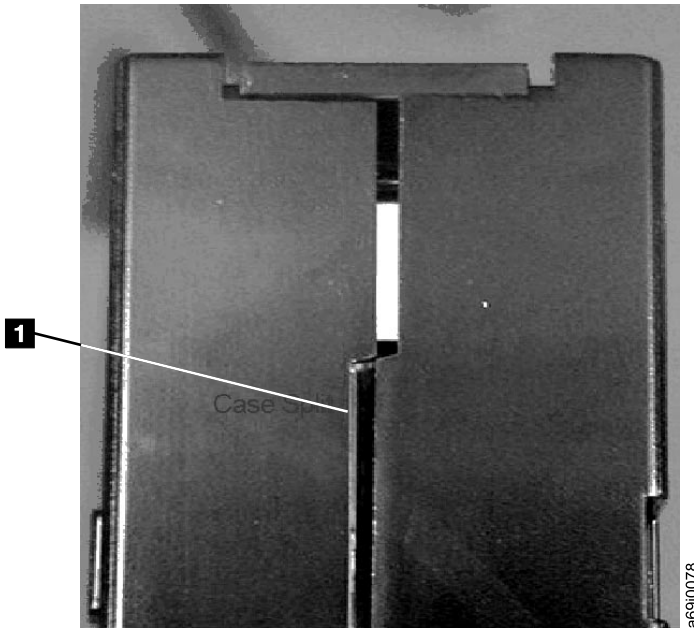
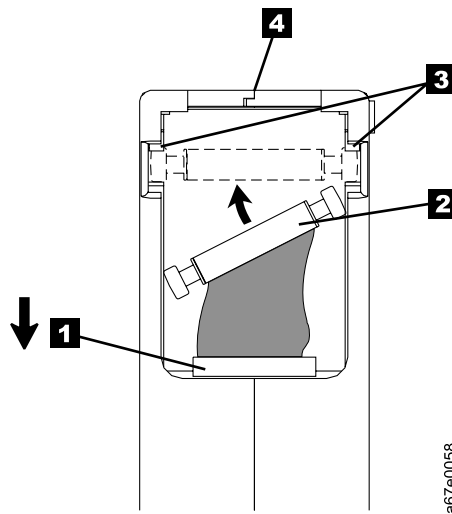

Figure 41. Checking for gaps in the seams of a cartridge
Figure 43. Placing the dislodged leader pin into the correct position. The cartridge door is open to show the leader pin.
- Inspect the rear of the cartridge (the part that you load first into the tape load compartment) and ensure that there are no gaps in the seam of the cartridge case (see **1** in Figure 41 on page 201 and **4** in Figure 43 on page 204). If there are gaps in the seam (see Figure 41 on page 201), the leader pin may be dislodged. Go to “Repositioning or Reattaching a Leader Pin” on page 203.
### Example: Split Cartridge Case (see Figure 41 on page 201)
1. Slide open the cartridge door ( **1** in Figure 43) and locate the leader pin **2** (you may need to shake the cartridge gently to roll the pin toward the door).